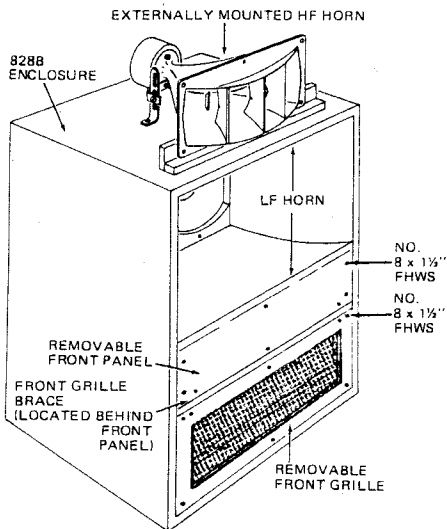
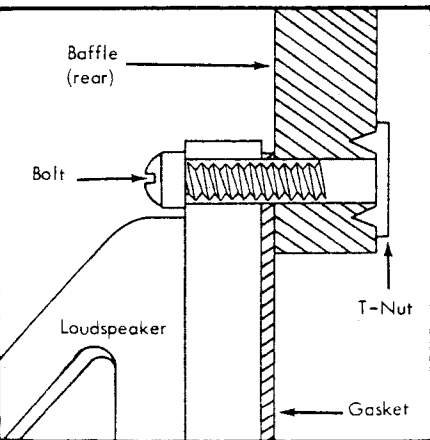

Figure 6. Externally Mounted HF Horn System, Front View (A7-8)
Figure 4. Rear Mounted Loudspeaker
- Install assembled HF horn to mounting board with three 1/4"-20 x 1 1/4" machine screws and lockwashers at three aligned T-nut mountings in board (see Figure 4). Do not tighten screws until horn position is set. Figure 6 shows horn installed.
To mount HF horn inside 828B cabinet, remove seven No. 8 x 1 1/4" flat-head wood screws from front grille (see Figure 6). Remove grille and store for possible future use. Remove three No. 8 x 1 1/4"